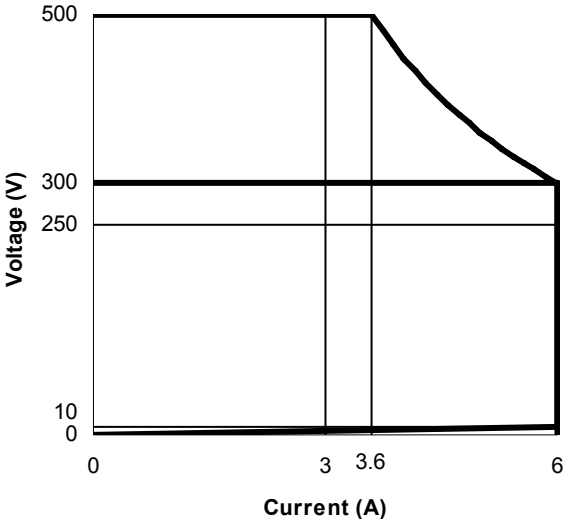

Figure 1-2 SLH-500-6-1800 Electronic Load Power Curve
- Figure 1-2 SLH-500-6-1800 Electronic Load Power Curve 1-2